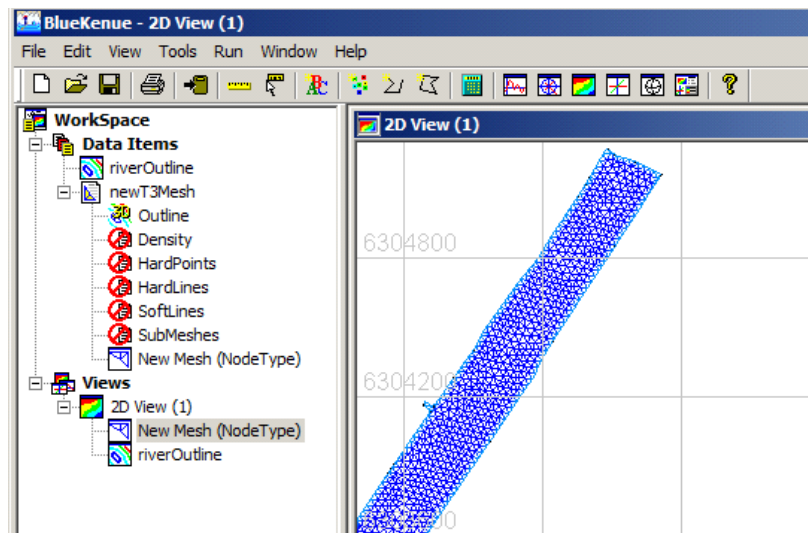

Figure 1 : Results of your first mesh generation in BlueKenue
The first step before running your simulation is to generate the computational mesh. Open BlueKenue (BK) and from the top menu select *File* → *Open*, change file format to *Line Sets (*.i2s, *.i3s)* and select *riverOutline.i2s* and click *Open*. In order to start new mesh generation, from the top menu of BlueKenue window select *File* → *New* → *T3Mesh Generator...* In the dialogue window enter 20 as the *Default Edge Length* and click *OK*. Drag the *riverOutline* layer in the *Data Items manager* (left pane of the BK window) and drop it on *2D View*, drag it once again and drop on *Outline* of *newT3Mesh*. Double click on the *newT3Mesh* to open its properties. In the properties dialogue window click *Run* to start mesh generation process. In a few seconds BK should complete the mesh generation process. After successful competition a new item should appear within the *newT3Mesh*, called *New Mesh (Node Type)*. Drag and drop it to *2D View*. Your results should resemble the ones from fig. 1.